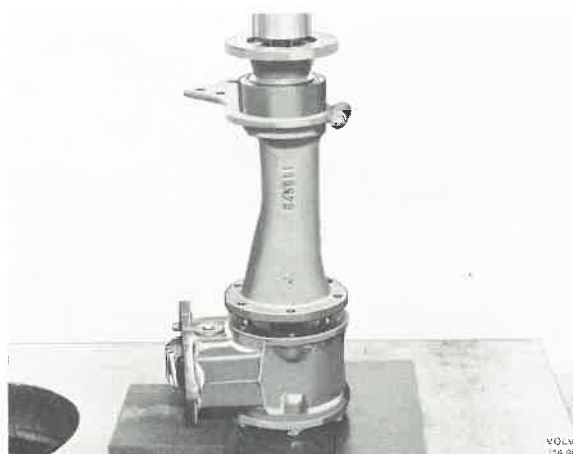

Fig 46-154 Pressing together the housing
15. Coat the sealing surface on the drive shaft housing with a sealant. Place the housing and gears in the press, Fig. 46-154, and fit the drive shaft housing in position. Press the housing together. Fit the bolts and tighten up.